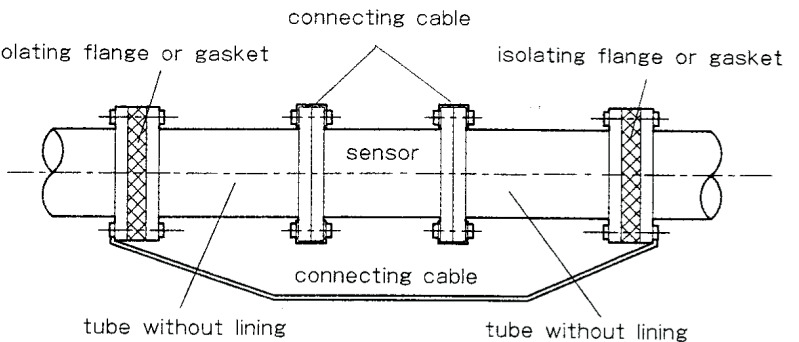

Figure 19. Connection using tubes without lining
- c) Some system, e.g. the piping with cathode protection, it will have disturbing potential because not whole system is grounding potential. In order to eliminate this interfere, you can connect two tubes without lining to the sensor as shown in figure 19.